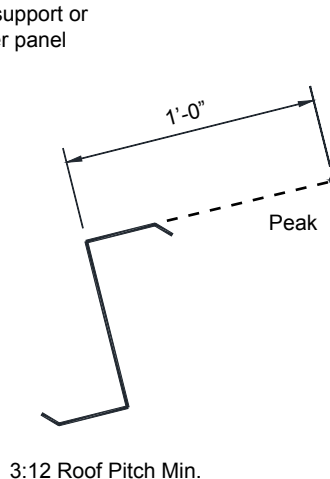

Figure 2
6. Peak Purlin Spacing: 1'-0" from center line of ridge to web of purlin. See figure 2.